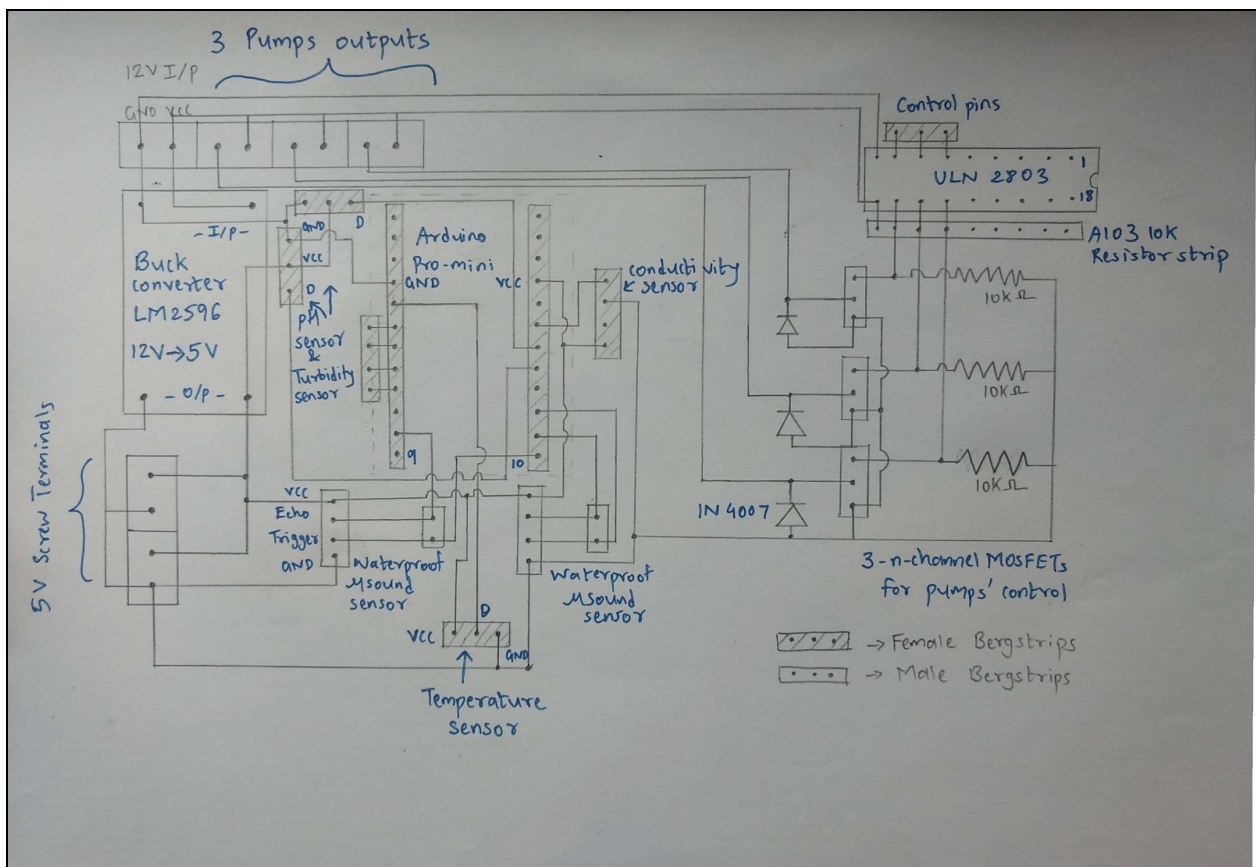

Figure 2 Circuit Diagram
microcontroller board, using a LM2596 buck converter which step downs the voltage from 12V to 5V. The circuit is soldered on a General Purpose Board as shown in figure 2
- Arduino Pro-mini shield in figure 2 is made using female bergstrips and the data pins of all the 4 sensors are connected to the corresponding pins as shown in above figure.